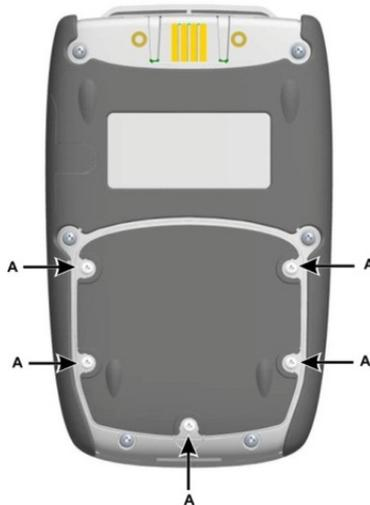

Figure 1-3: Installing the Battery
1. Remove the five Pozidriv screws A, see Figure 1-3.